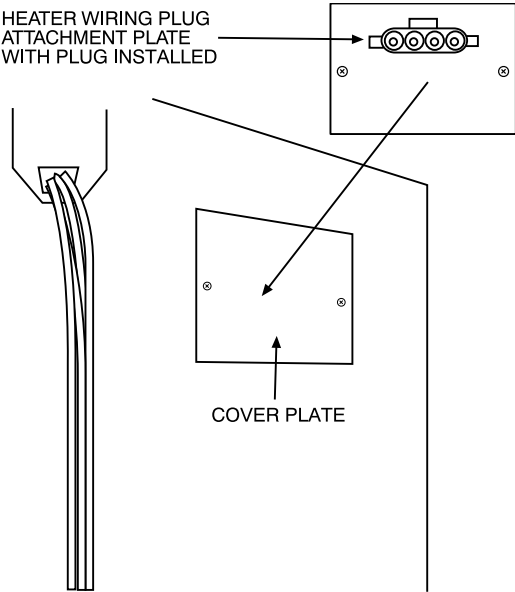

Fig. 4 – Inside Blower Compartment
9. Remove heater wiring cover plate from interior partition between blower and control box (See Fig. 4) and install heater wiring plug attachment plate provided with heater.
12. Heater control panel will have black and yellow power wires ending in panel mounted plugs; reach through large rectangular opening in control panel and snap these plugs into mating openings in heater wiring plug attachment plate installed in step 9 above (See Fig. 4).